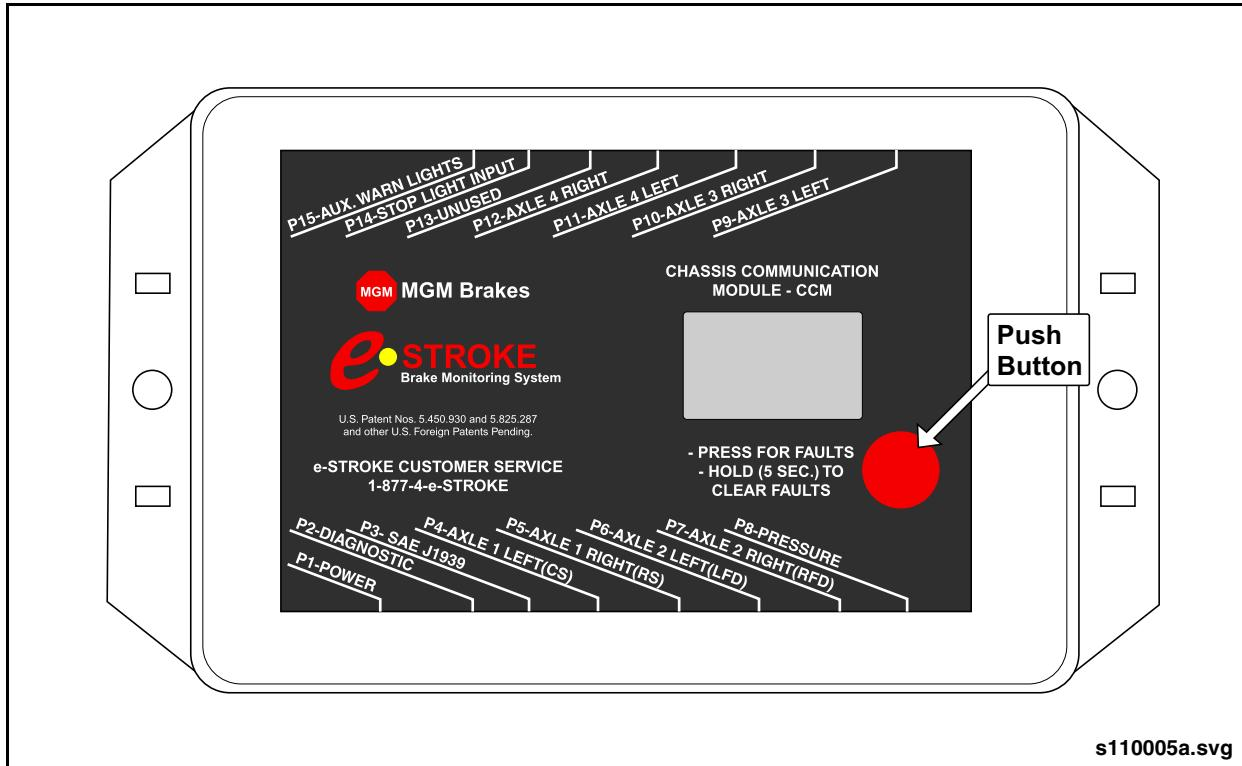

Fig. 9-64: E-Stroke Chassis Communication Module
- A Chassis Communication Module (CCM) located on the forward face of the street-side wheelhousing. See "Fig. 9-64: E-Stroke Chassis Communication Module" on page 100.